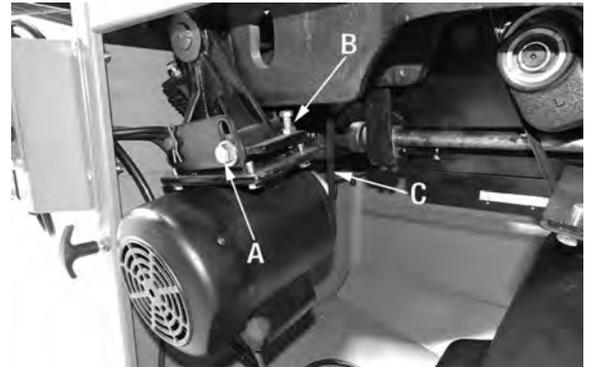

FIGURE 64
3. Loosen but do not remove hex. bolts (A & B) Fig.64.
4. Pivot the motor upwards to release tension on the belt, then remove belt (C).